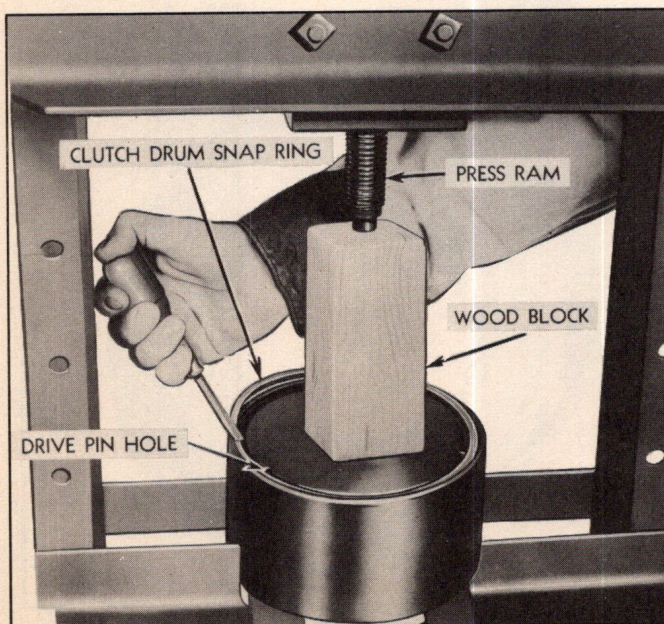

Fig. 242—Installing Clutch Drum Snap Ring
12. Lift front unit assembly off planet carrier, place in press and press clutch drum below snap ring groove. Install clutch drum snap ring, positioning gap of ring between two drive pin holes (Fig. 242).